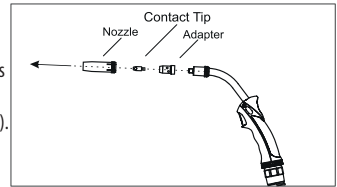

Figure 9: Removing the Nozzle, the Contact Tip and the Adapter
- To change the liner; remove the nozzle, the contact tip and the adaptor respectively (Figure 9).